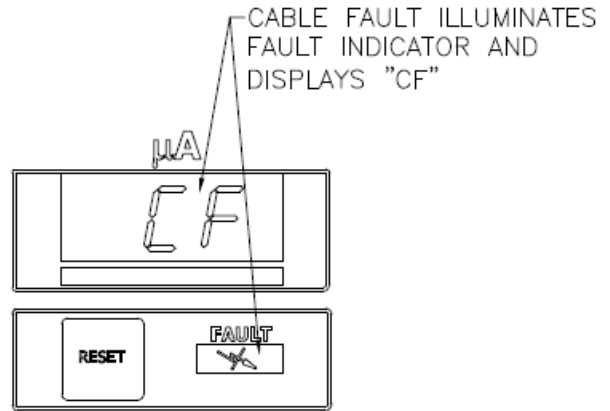

Figure 11: Cable Fault Display
- Open the cabinet door and position jumper J8, shown in Figure 11, on the main PC Board so that it covers (shorts) both terminals.